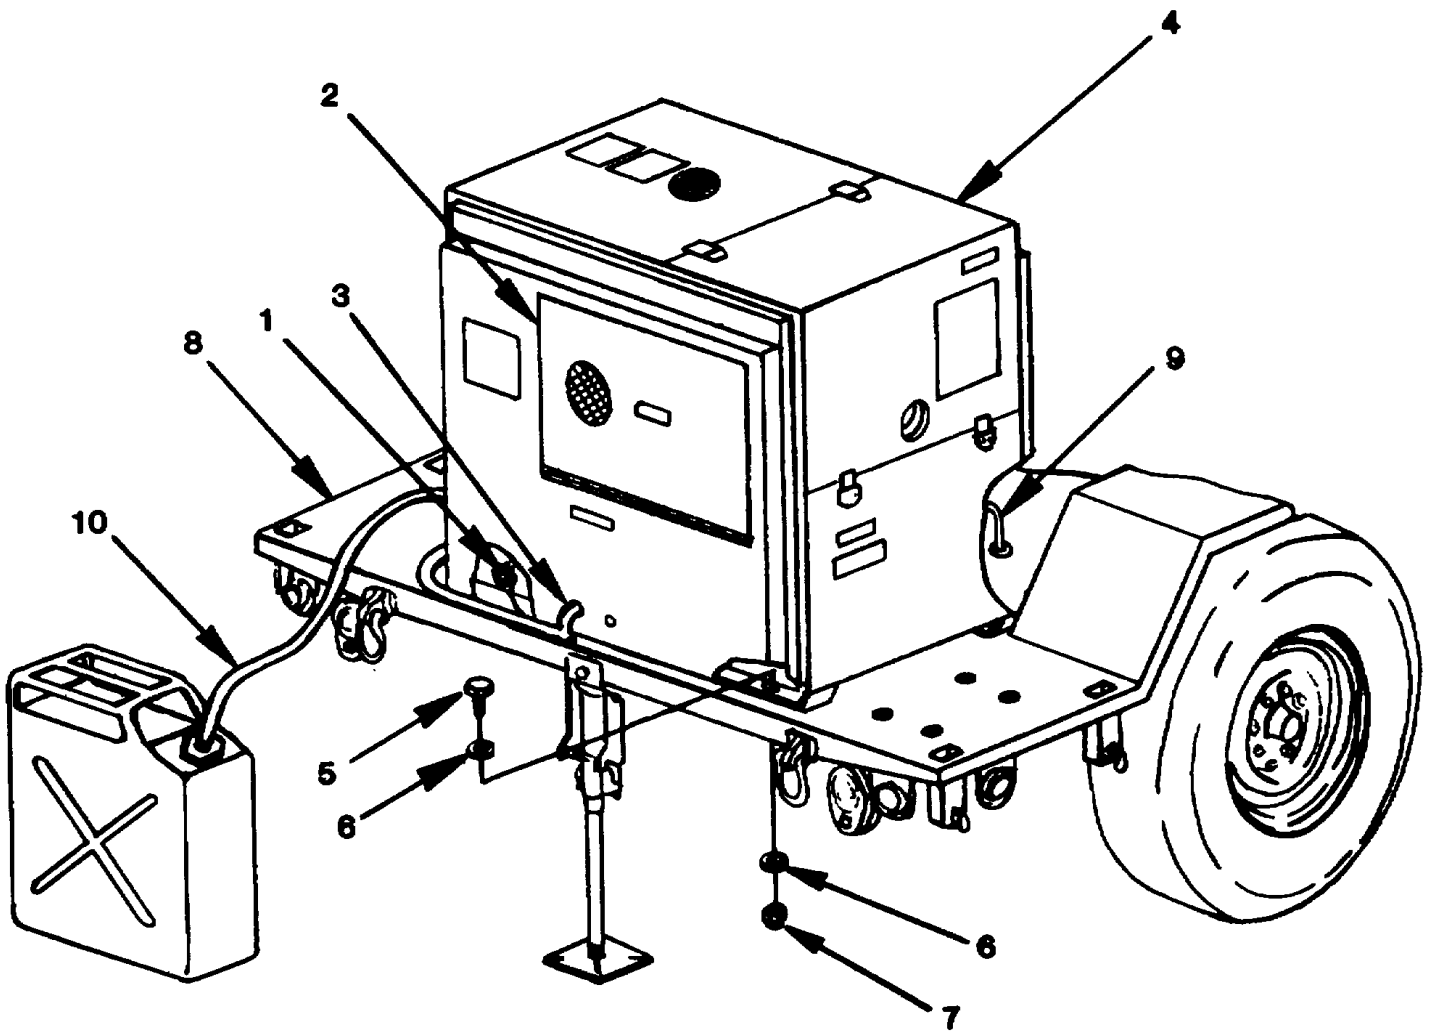
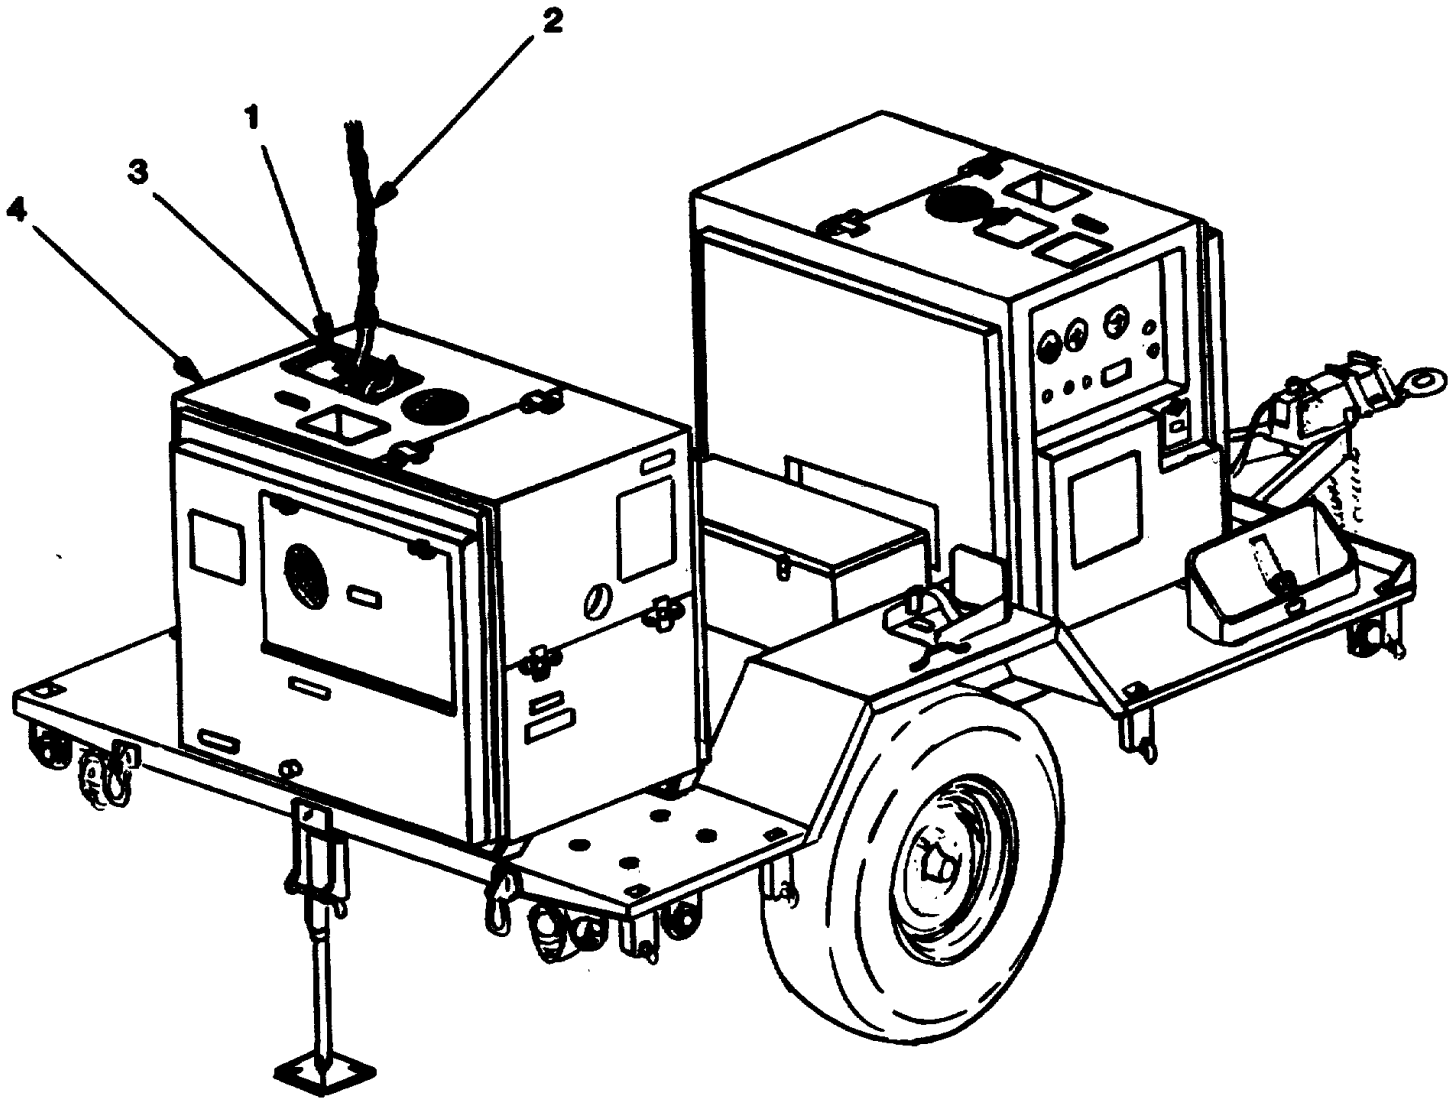

Figure 5-1. Detaching Generator Set from Trailer.
Figure 5-2. Lifting Generator Set from Trailers.
- (1) Remove tarpaulin from AN/MJQ-33 (paragraph 3-6a(1)).
- (2) Remove four bow assemblies from AN/MJQ-33 (paragraph 3-6b(1)).
- (3) Remove ground wires from generator set ground stud (1, figure 5-1).
- (4) Open service access door (2), and disconnect all load cables (3) and remove from generator set (4). Close access door.
- (5) Remove four screws (5), eight washers (6), and four locknuts (7) securing generator set (4) to trailer bed (8).
- (6) Remove engine oil drain hose (9) from grommet in AN/MJQ-33 trailer bed.
- (7) Disconnect auxiliary fuel line (10), if connected.
- (8) Open lifting eye access door (1, figure 5-2) and attach lifting equipment with a minimum lifting capacity of 1500 lb (2) to lifting eye (3) on top of generator set (4) and remove generator set from trailer.
- (1) Open lifting eye access door (1, figure 5-2) and attach lifting equipment with a minimum lifting capacity of 1500 pounds (2) to lifting eye (3) on top of generator set (4) and lift generator.
- (2) Lower generator set (4, figure 5-1) on trailer bed (8) and align mounting holes.
- (3) Insert four screws (5), four washers (6) through generator set and trailer.